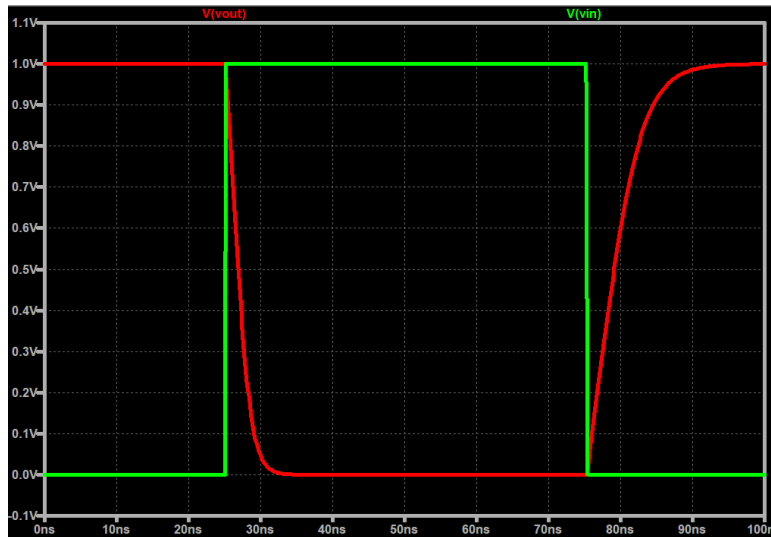

Figure 2.29 Transient simulation for our inverter setup
5. **Plot VIN and VOUT in one plotting plane.** You should get Figure 2.29.